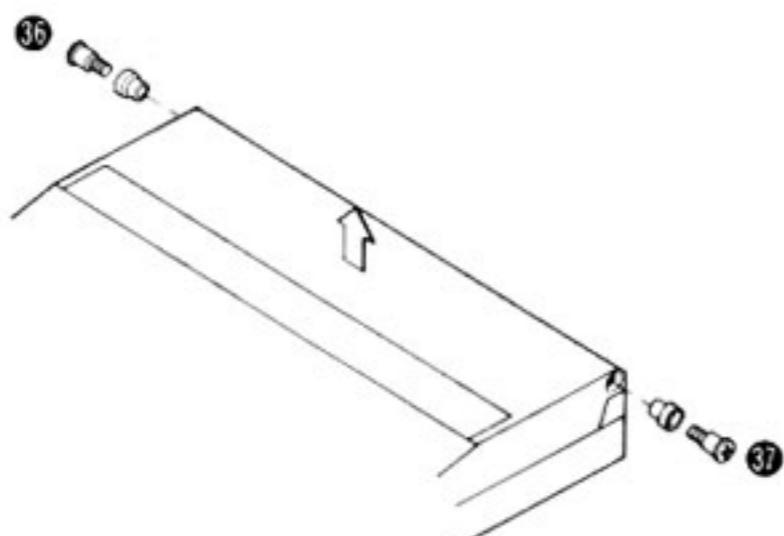
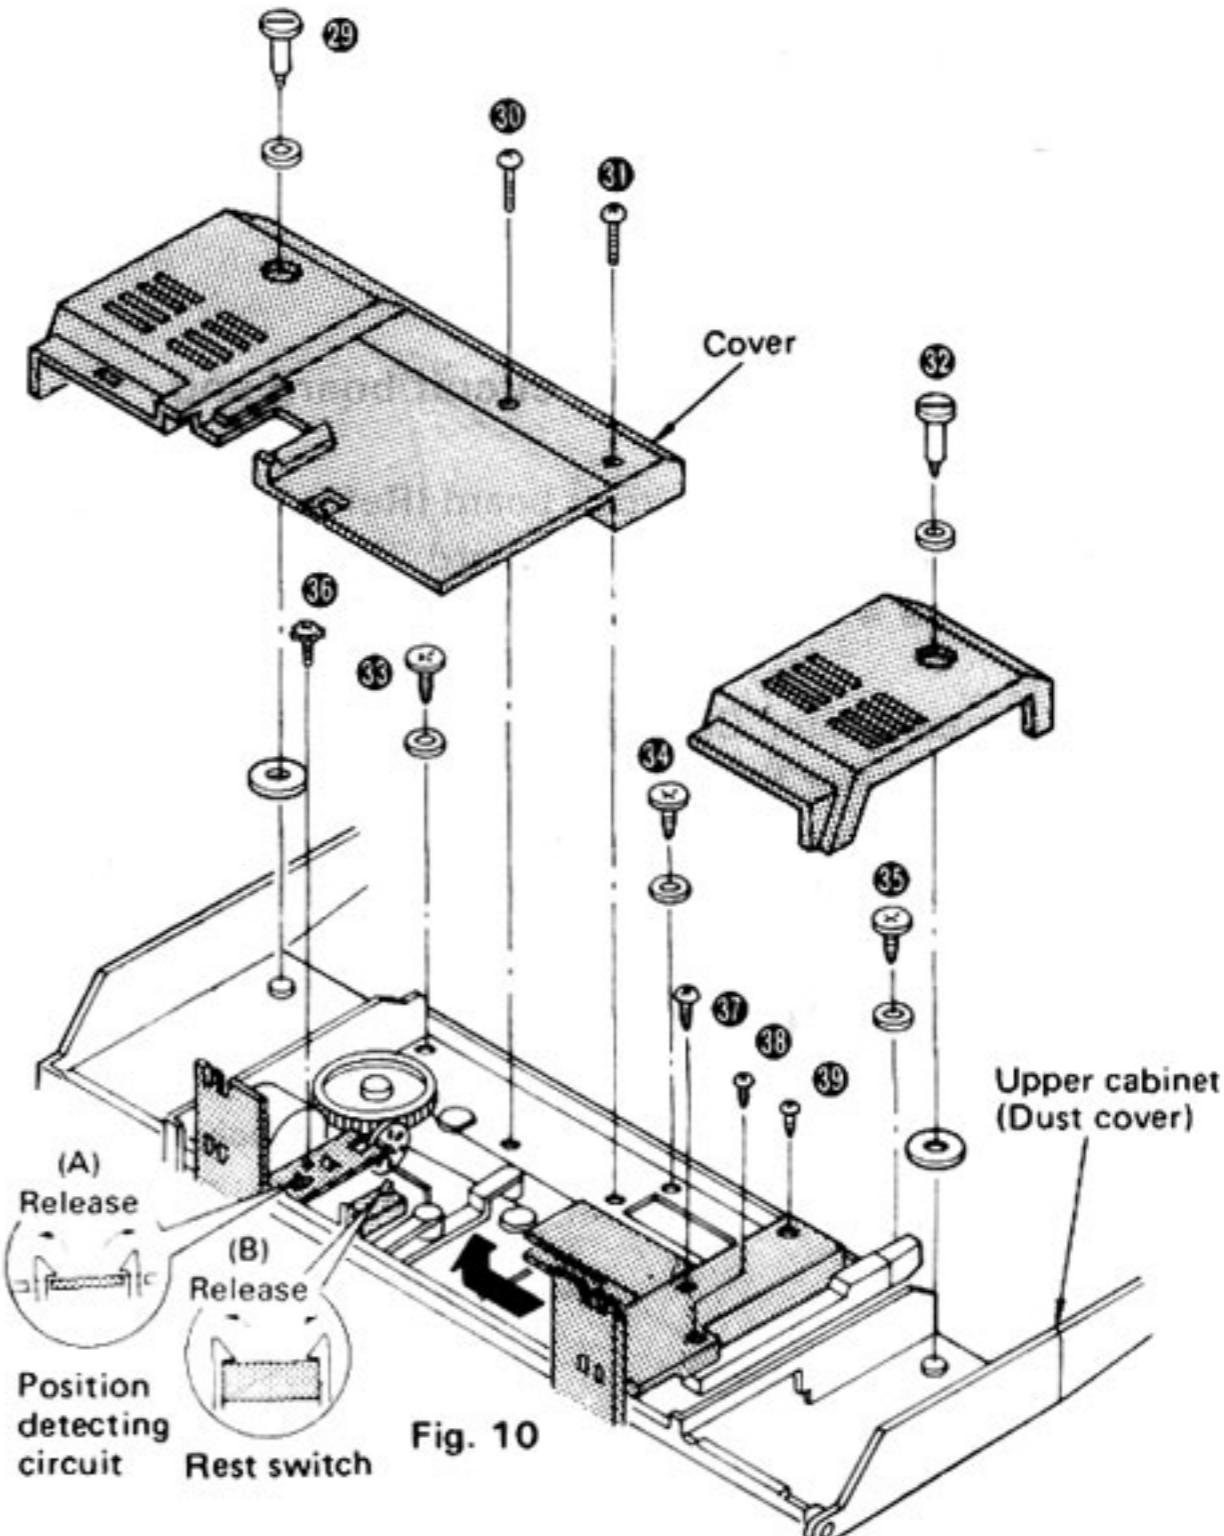

Fig. 11
Fig. 10
2. Remove the 4 setscrews (Fig. 10: ②9~③2).
3. Remove the 5 dust cover setscrews (Fig. 10: ③3~③8) and Fig. 11: ③6, ③7).
2. Remove the tonearm position detecting circuit board setscrew (Fig. 10: ③0).
3. Release the each 2 claws and remove the tonearm position detecting circuit board and the rest switch (S 601). (Fig. 10: (A) (B))
2. Remove the tonearm cover setscrew (Fig. 10: ③7 ~ ③9) and tonearm cover.